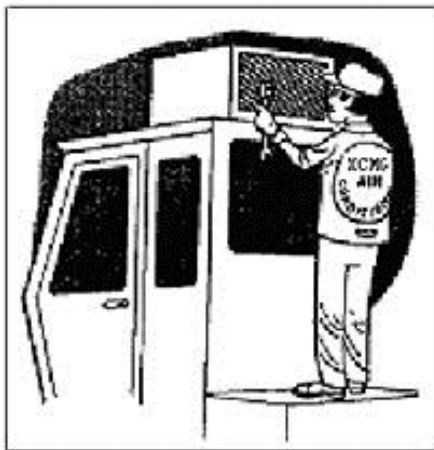

Figure. 1-23
- It is highly recommended to check the ROPS status. The ROPS must not show any rust, damage, hair-line cracks or open fractures. All bolted connections must comply with the specifications and should be absolutely tight.(Figure.1-23) If finding the ROPS gets damaged or deformed, replace it with a new one.